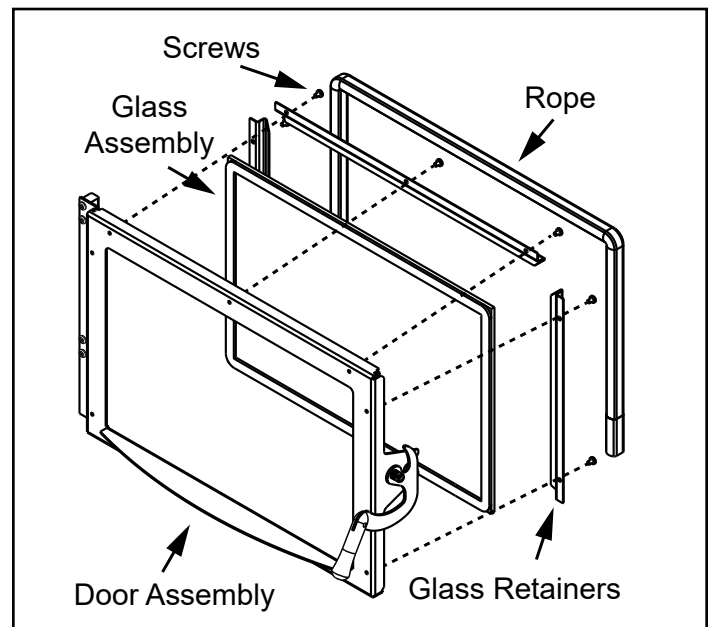

Figure 24.2
9. Add rope into crevice as shown below in **Figure 24.2**.